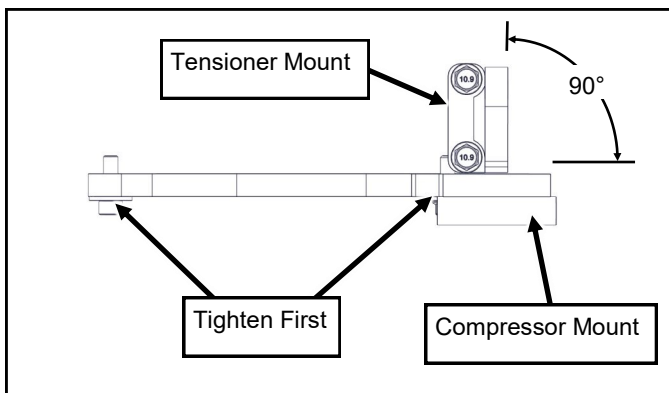

Fig. 1.4 (Torque Mounting Screws)
1.40 Torque all three screws on the compressor mount to 19 ft-lbs (26 N-M). Using a square, adjust the tensioner mount to be perpendicular to the compressor mount and torque the two tensioner mount screws to 19 ft-lbs (26 N-M). See Figure 1.4.